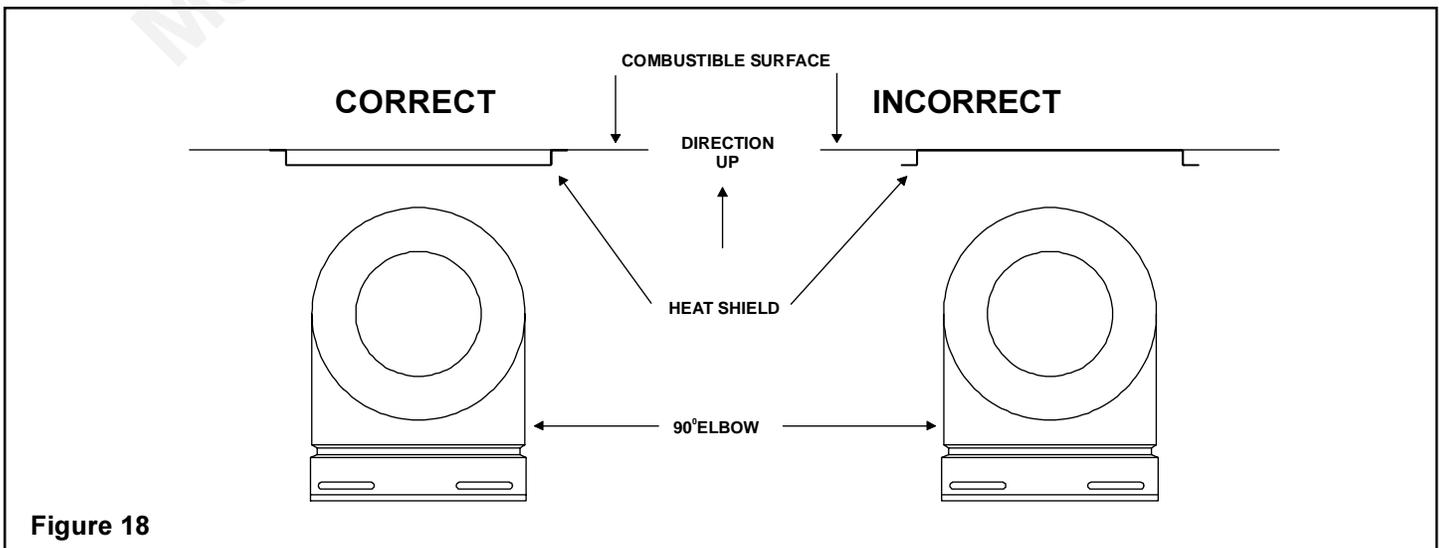

Figure 18
2. Fasten the shield in place using the four pilot holes provided in the part. The shield should be oriented such that the 13 1/8 inch dimension (longest dimension) is running in the same direction the elbow is pointing. The shield should be centered directly above the elbow, and positioned so that it creates a 1/2 inch airspace between the shield and the combustible surface. See Figure 18.
- 90° elbows may be installed and rotated to any point around the preceding component's vertical axis. If an elbow does not end up in a locked position with the preceding component, attach with a minimum of two (2) sheet metal screws.